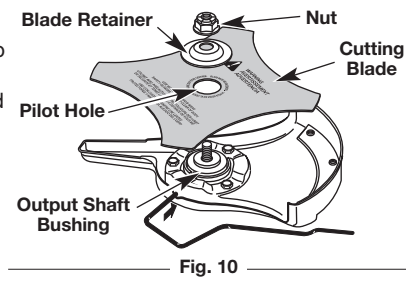

Fig. 10
1. Place the cutting blade on the output shaft bushing (Fig. 10).